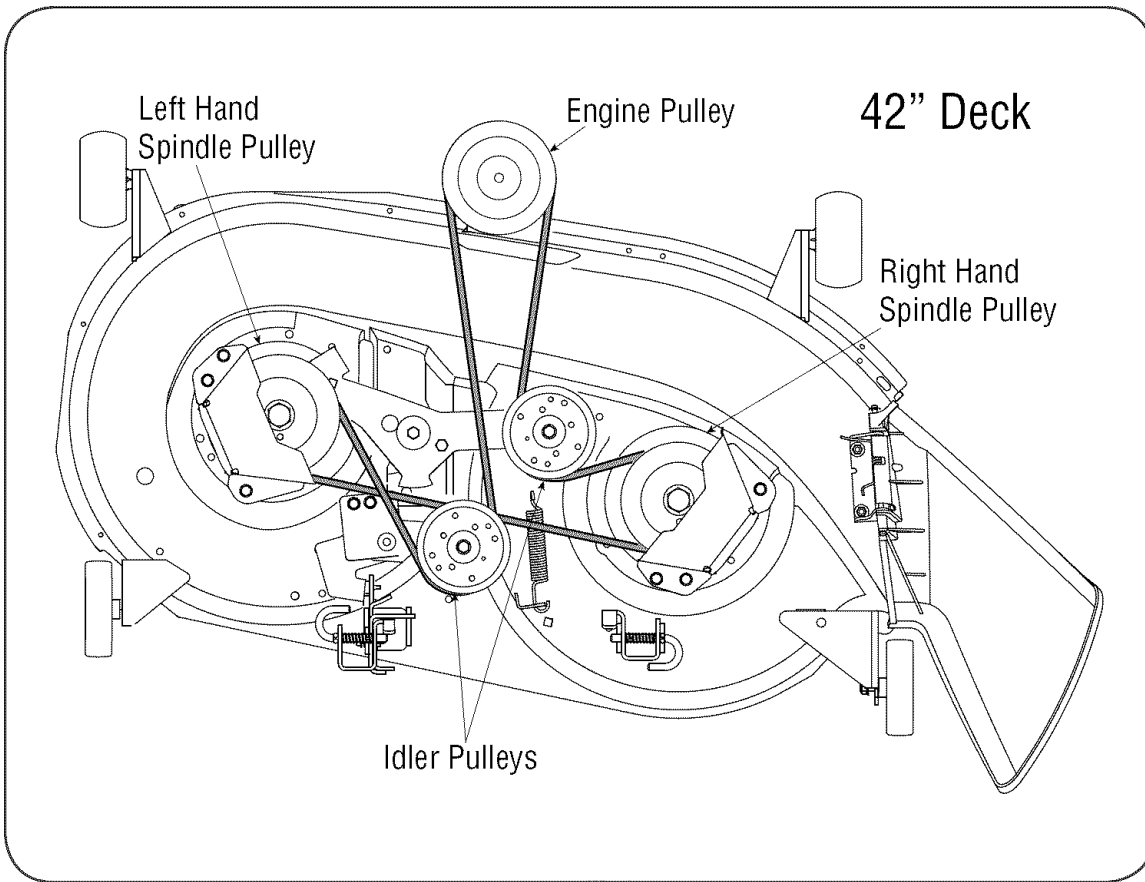

Figure 23
6. Route the new belt as shown in Figure 23 and retighten the deck idler pulleys.